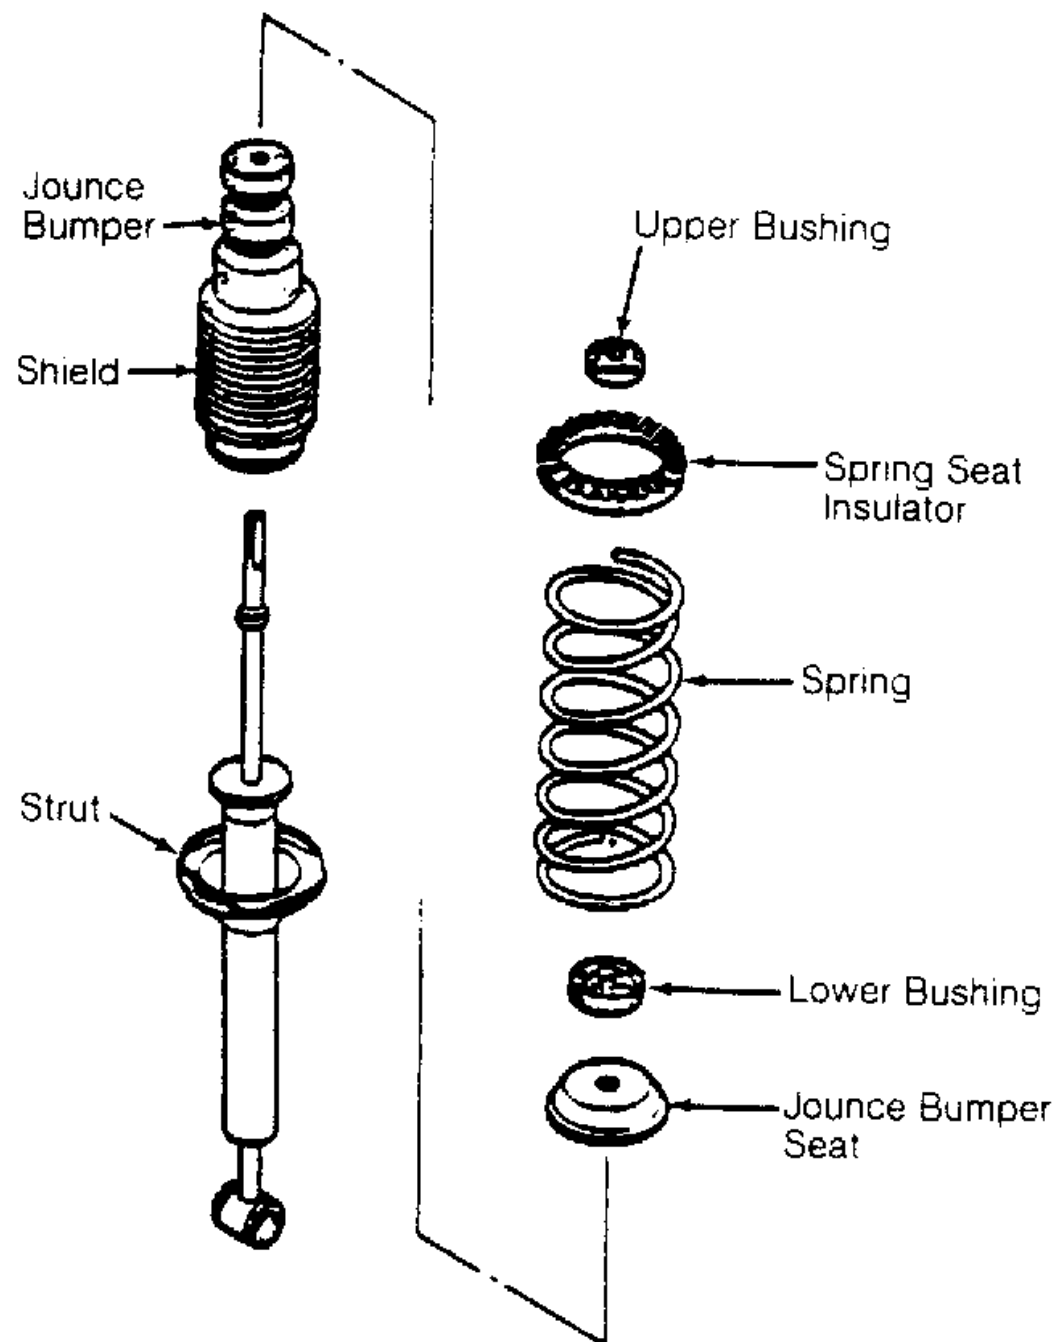

Fig. 3: Exploded View of Strut Assembly (Typical)
2. Remove jam nut and flanged nut from strut rod. Remove bushing washer and upper bushing. Remove strut lower end mounting bolt from wheel support arm. Remove strut and separate it from spring and seat insulator. Remove lower bushing and jounce bumper seat from strut rod. Slide jounce bumper and shield off strut. See Fig. 3.